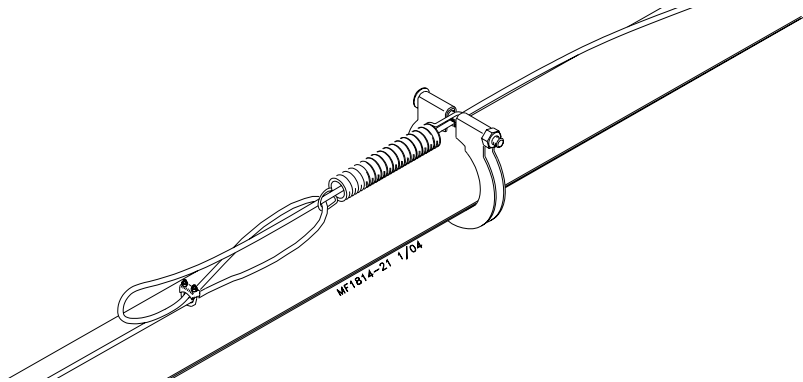

Figure 44. Hopper End Spring Installation
6. There is not enough room between the feed hopper and the first feeder pan to attach and stretch the spring. Install the spring in between the first and second pan after the hopper. Then route the cable back to the first pan and attach to the feed tube cable assemblies, see figure 44.